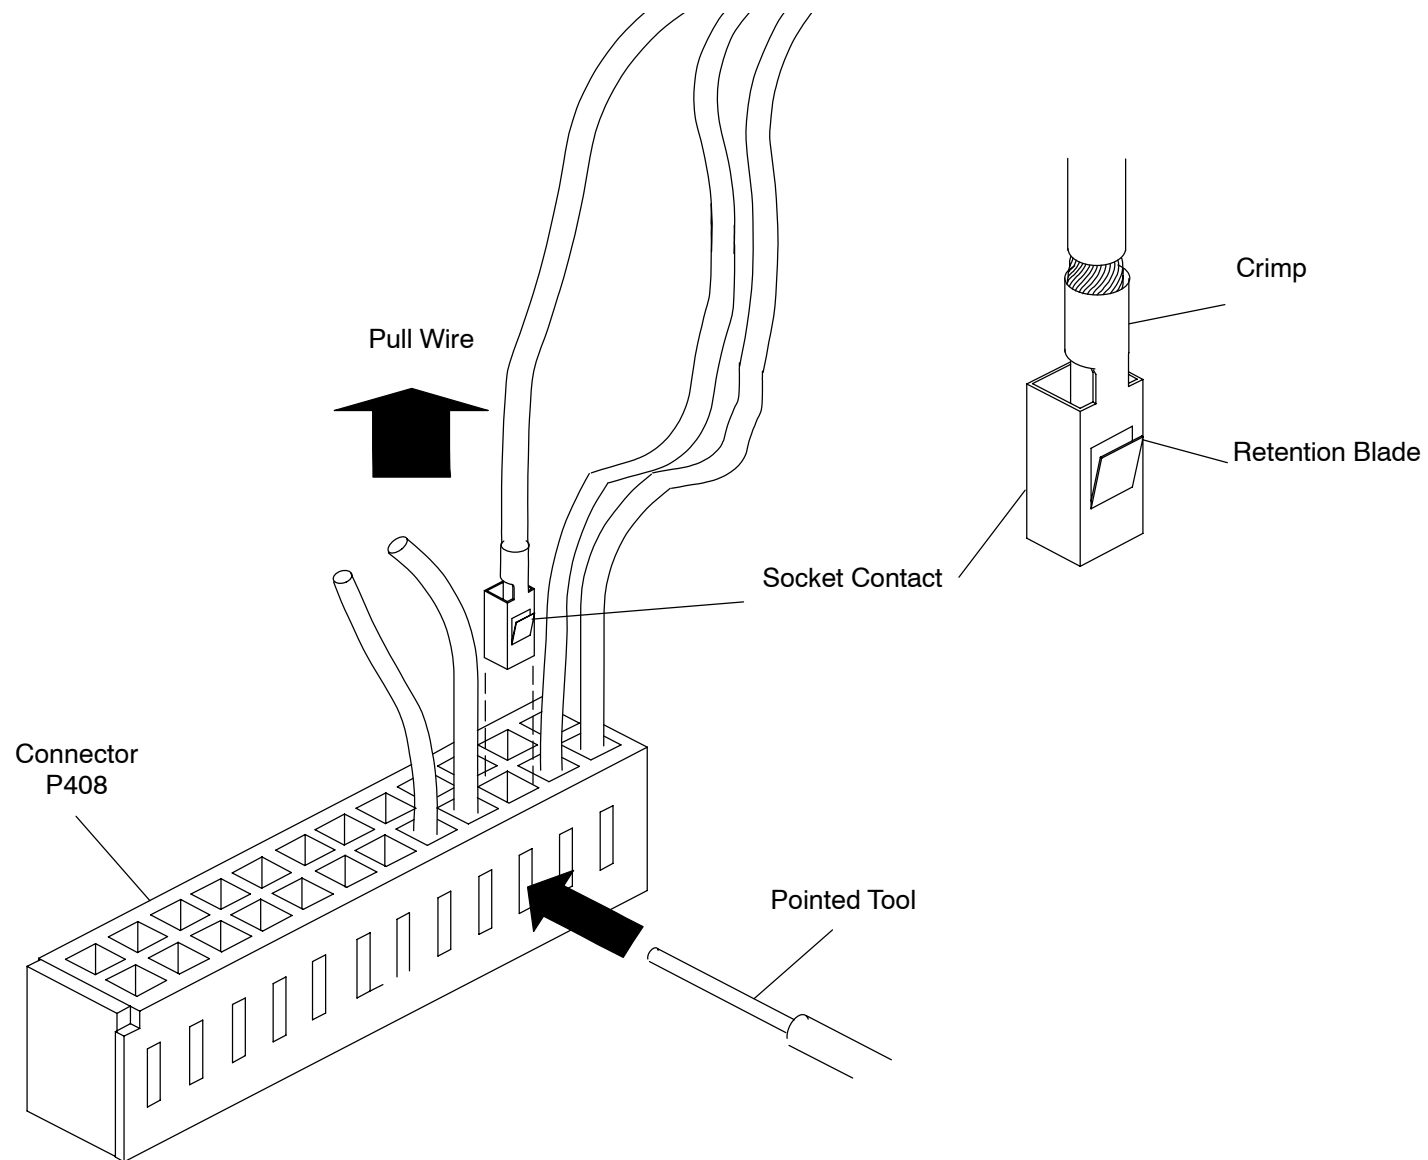

FIGURE 204 REMOVING RESOLVER PINS FROM THE CONNECTOR
5. Loosen the two (2) Set Screws on the Resolver Pulley. Remove the Resolver from the Pulley and away from the Bracket. Continue at resolver installation step 1.
7. Remove the Resolver Wires from Connector P408. To release the Socket Contact Retention Blade, press against it with the point of a small object, while pulling on the Wire until the Contact is clear of the connector shell. Refer to Figure 204.
8. Loosen, but do not remove, the three (3) Cleat Screws holding the Resolver in place.
10. Loosen the two (2) Set Screws on the Resolver Pulley. Remove the Resolver from the Pulley and away from the Bracket.